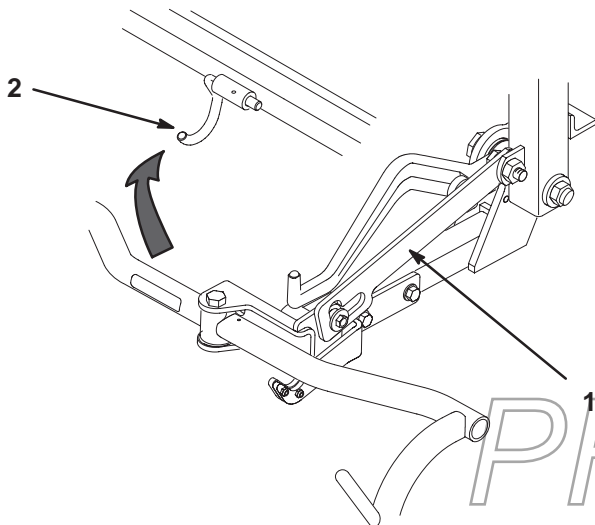

Figure 18
- C. Lift up on the slotted link and rotate the pull frame into the wire hook (Fig. 18).